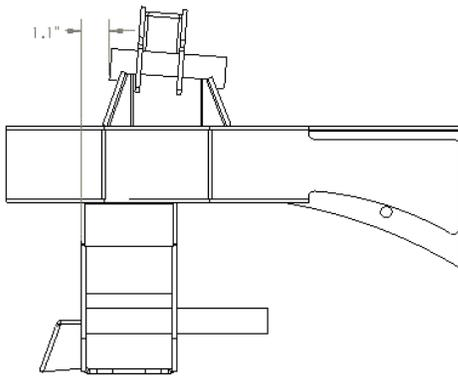
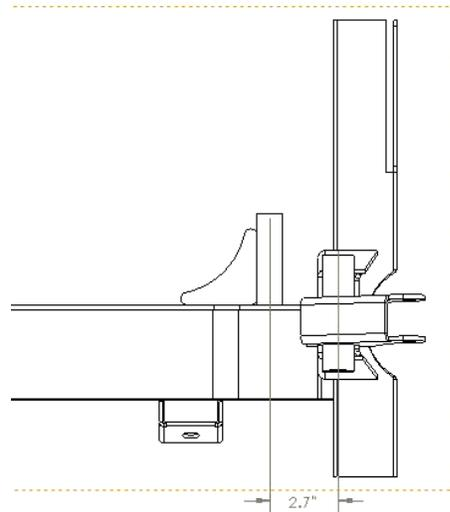

Figure 5- upper arm/shock mount Install
Figure 6
- 5) Next are the upper arm mounts/shock mounts. They sit on top of the frame rails, and drop on crossmember as shown in **Figure 5**. They are higher in front, which is the anti-dive angle and have a locator tab to help with positioning. Before you weld please make sure the upper A-Arm tubes and the lower A-arm tubes line up as shown in **Figure 6** and all measurements are correct. Clamp in place and weld all around.